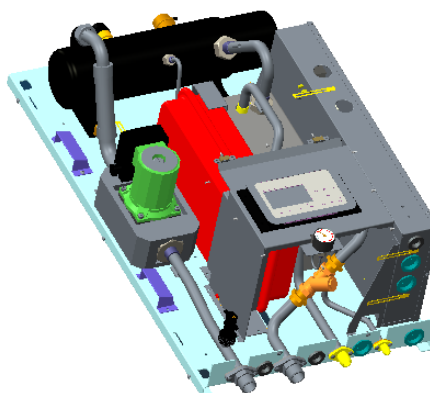

Fig. 2
<p>1) Remove the cover,front side plate and right side plate.</p> <ul style="list-style-type: none">Loosen the two tapping screws, and remove the cover, the front side plate and right side plate.[Fig. 2]	<div></div> <p>Fig. 1</p> <div></div> <p>Fig. 2</p>
1) Front panel assy [Fig. 2]